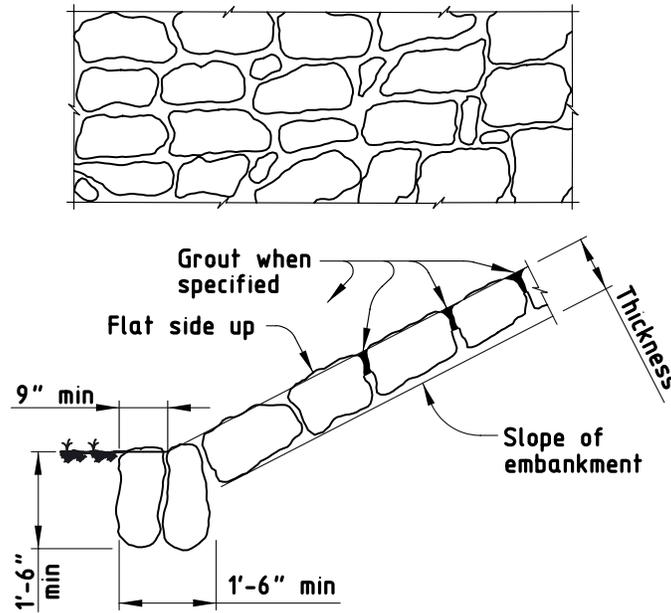

Figure 3
- b. Grouting.** Construct riprap as shown in Figure 3. Size, shape, and lay large flat-surfaced stones to produce an even surface with minimal voids. Place stones with the flat surface facing upward parallel to the slope. Place the largest stones near the base of the slope. Fill spaces between the larger stones with stones of suitable size, leaving the surface smooth, tight, and conforming to the contour required. Place the stones to create a plane surface with a maximum variation of 6 in. in 10 ft. from true plane. Provide the same degree of accuracy for warped and curved surfaces. Prevent earth, sand or foreign material from filling the spaces between the stones. After the stones are in place, wet them thoroughly, fill the spaces between them with grout, and pack. Sweep the surface with a stiff broom after grouting.